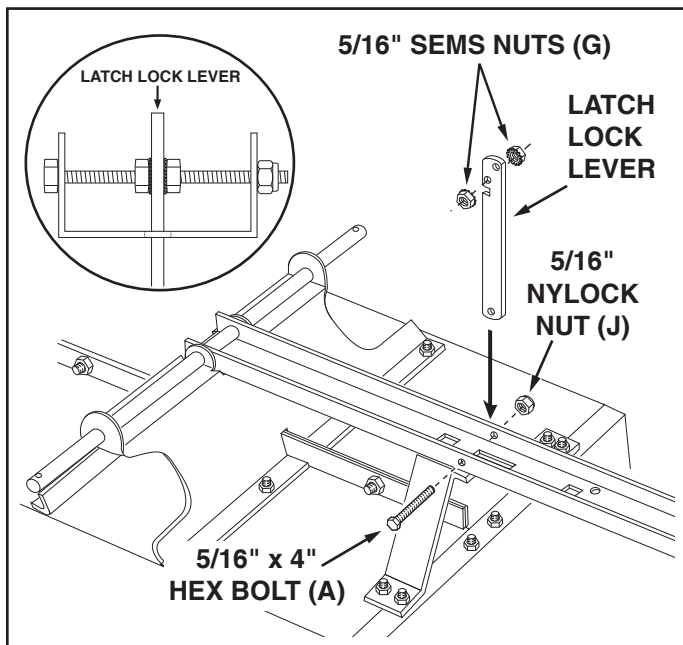

FIGURE 8
16. Place the latch lock lever through the slot in the tongue. Insert the 5/16" x 4" hex bolt (A) through one side of the tongue. Assemble a (SEMS) hex nut (G), the lever and another (SEMS) hex nut (G) onto the hex bolt. Insert the hex bolt through the opposite side of the tongue and assemble a 5/16" nylock nut (J) onto the end of the hex bolt. Tighten so that the hex bolt can still rotate freely. Tighten the two (SEMS) hex nuts (G) against each side of the latch lock lever so that it is centered in the slot. See figure 8.